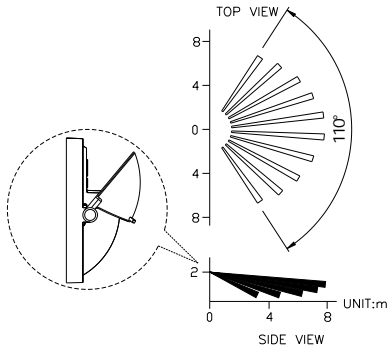

FIGURE 12
- For mid detection range (8m) the control cover should be in the mid position. FIGURE 12